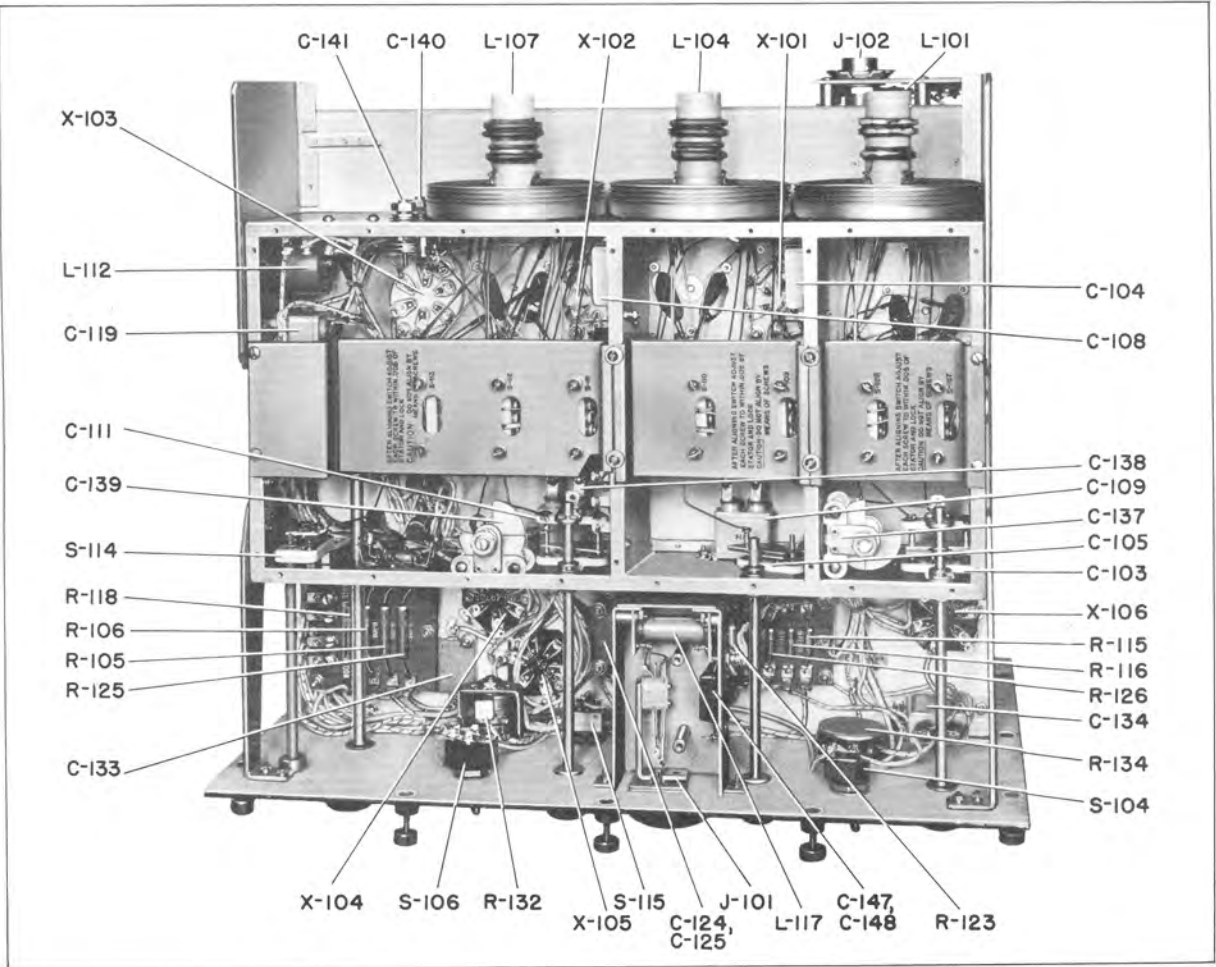

Figure 6—Receiver Unit CMX-46156-A (Bottom View of Chassis—Covers Removed)
- 9.4-8 Normally, the a-c power is controlled either from the control unit or the power unit. In addition, a d-c power "On-Off" switch is provided on the receiver panel for use only in the event the receiver in an emergency is operated on batteries. *If this switch is opened when the receiver is normally operated on a.c., the load is removed from the power unit and overloading and damage of certain of its parts may result.* For this reason, shorting links are provided behind the panel (see Figure 6) which permanently close this switch circuit. If it is desired in an emergency to operate the receiver on batteries, these links should be opened.
- 9.7-2 A filter assembly connected to the output jack J101 and consisting of coils L117A and L117B and by-pass capacitors C147 and C148 eliminates signal pick-up on the phone leads. The shield around the phone jack prevents direct radiation from the jack itself. See Figure 6.
- 10.1-19 "DC POWER OFF-ON" Switch: This switch is not used in the normal operation of this equipment and is accordingly wired out of the circuit by short-circuiting links located under the chassis (see Figure 6).
NOTE: HOWEVER, SHOULD OCCASION ARISE, THIS EQUIPMENT MAY BE OPERATED FROM A BATTERY SUPPLY CONSISTING OF SUITABLE FILAMENT AND PLATE BATTERIES. THIS METHOD OF OPERATION WILL REQUIRE OPENING OF THE SHORT CIRCUITING LINKS (SEE FIGURES 6 AND 20), AND CONNECTION OF CABLE W-201 AS INDICATED BY THE DOTTED LINES IN FIGURE 16. OPERATION OF THE RECEIVER WILL THEN BE CONTROLLED BY THE "DC POWER" SWITCH ON THE FRONT PANEL.